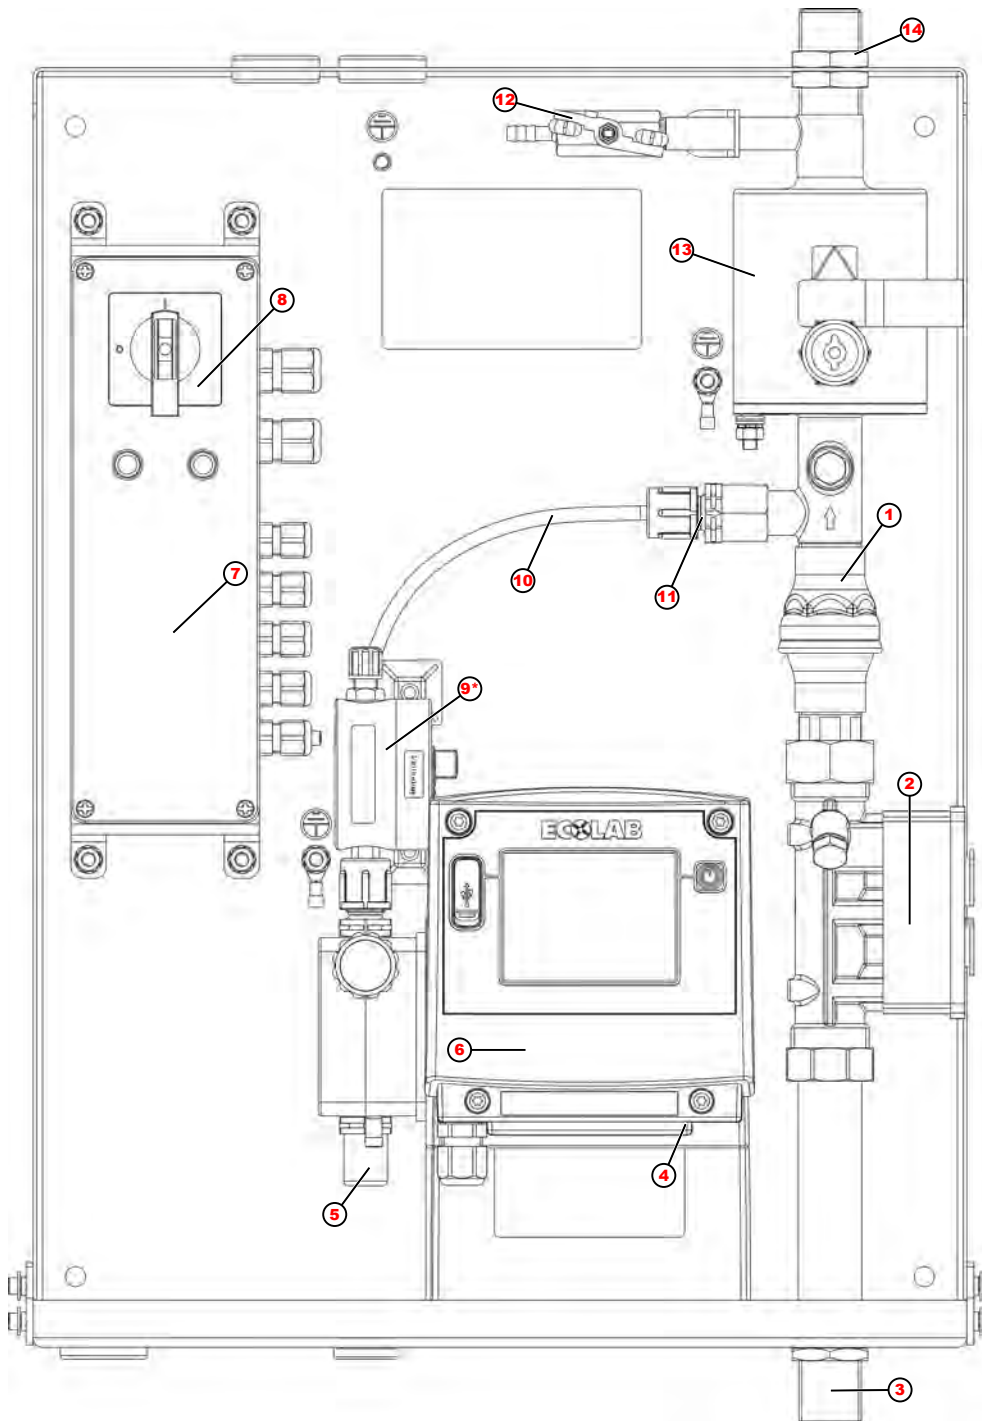

Fig. 4: Connection overview: Lub-O-Mat Eco
(☞ Chapter 5.2 ‘Connection overview’ on page 36, Fig. 4, pos. 9).